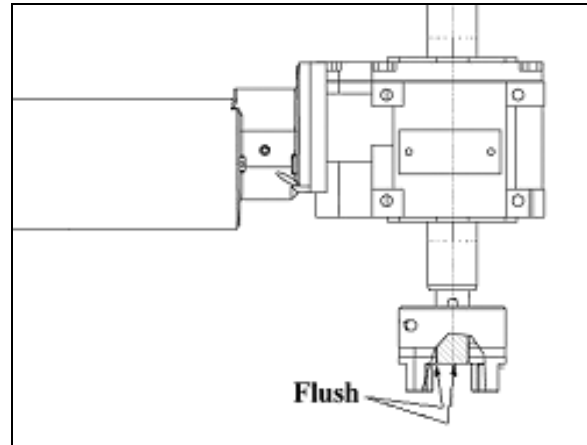

FIGURE 21: CLAMPING HUB POSITION ON GEARBOX SHAFT
6. Install a clamping hub on one of the gearbox shaft (opposite side of gearbox mounting bolts) flush with the shaft extremity (Figure 21) and tighten the clamping screw.
so that they are flush with the shafts extremity (Figure 21).